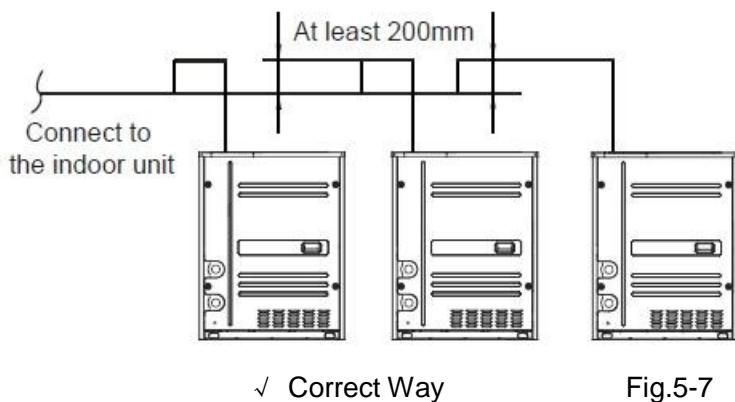

Fig.5-7
- 1) Connect the pipes between main units, the pipes should place horizontally (Fig.5-7, Fig.5-8), it is not allow the concave at junction site and set longer than 200mm bending pipes for saving oil.